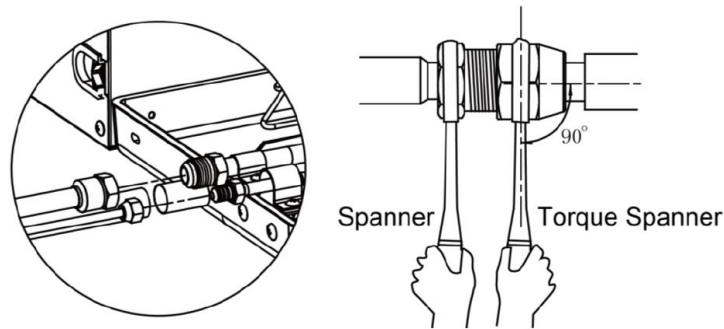

Fig.24
(1) Conform to the following principles during piping connection: Connection pipeline should be as short as possible. The height difference between indoor and outdoor units should be as short as possible. Keep number of bends as little as possible. The radius of curvature should be as large as possible.
(2) Weld the connection pipes between indoor and outdoor unit. Please strictly conform to the requirements for welding process. Rosin joints and pin holes are not allowable.
(3) When laying the pipes, be careful not to deform them. The radius of bending parts should be more than 200mm (7-7/8inch). The pipes cannot be repeatedly bent or stretched; otherwise the material will get harden. Do not bend or stretch the pipe over three times at the same position.
(4) Please use a torque wrench to connect union nut on the indoor unit. See Fig.24.